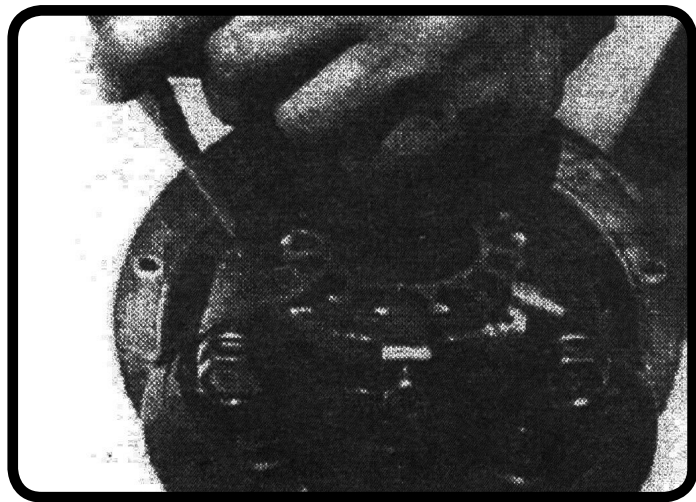

Figure 2
Mark the carrier and bearing cap on the **ring gear side with one punch mark** and on the **other side with two marks (Figure 2)**. The caps are not interchangeable! Also mark each bearing adjuster directly under the lock with this same mark to note its side and rotational position. *This mark is very important to correct re-assembly!*
5. Install the correctly-marked cap. Use the bolts as guides by turning them in two threads or so and then sliding the cap down to meet the case. Be sure that the cap threads fit into those in the adjuster. Do not force anything. the cap should slide down very close to the carrier surface. Tighten the bolts until they are snug (see **Figure 2**).
10. Install the adjuster locks and torque the bolts. Be sure that they are located in the marked holes (as shown in **Figure 2**).